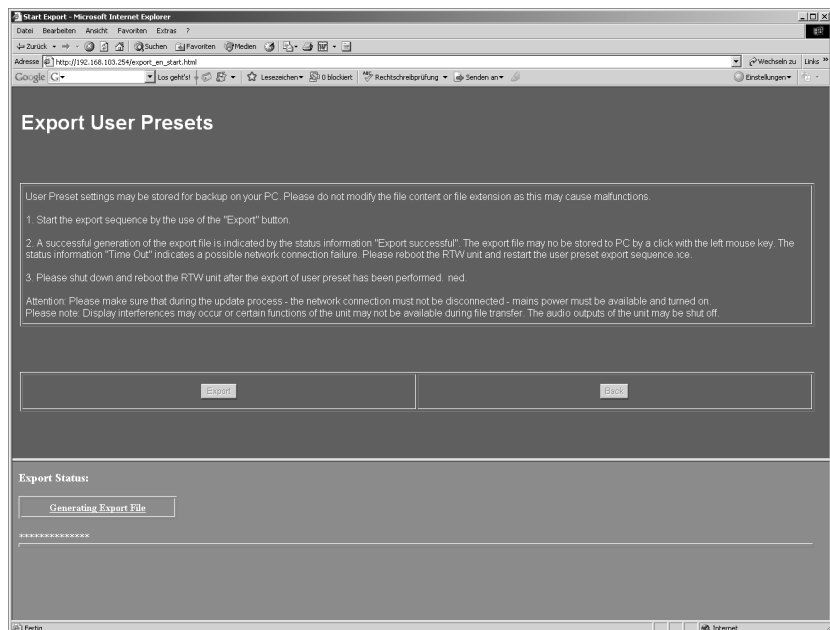

Fig. 8-12: The export is running
4. The export of the user setting data starts (see Fig. 8-12). "Generating Export File" is displayed, a starline is showing the progress of the export.